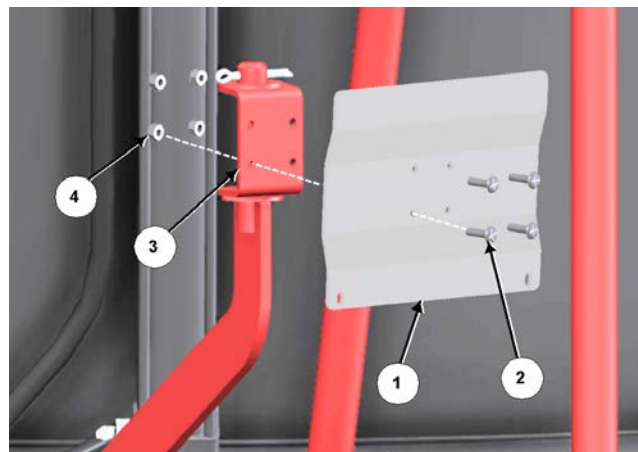

Figure 1: Attach the Display Mount to the Mount Arm
2. Attach the mounting bracket (1) to the display holder (3), as per Figure 1.
- a. Fasten with 4 of #10 x 3/4" machine screws (2) and 10-24 nylock nuts (4).